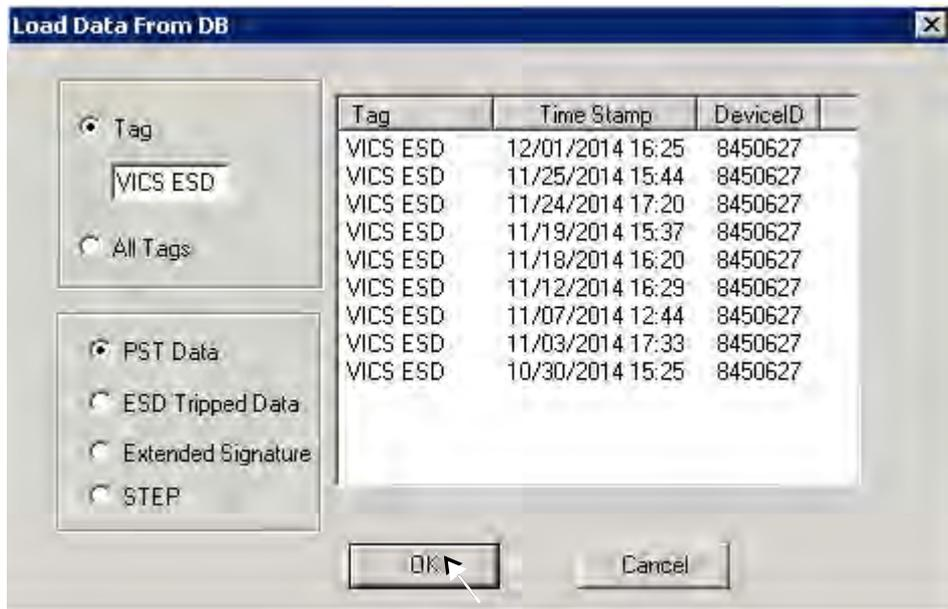

Figure 286 Loading Selected Data
5. Scroll through the list and find the *Time Stamp* to load and click **OK** (Figure 286).